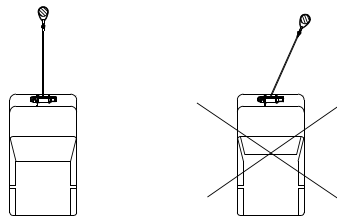

figure 7
14. Avoid pulling things from the limitary angles. Or else the wire rope will cause damage to one end of the drum (See figure 7). This will cause the tangling of wire rope on the winch and bring damage to the wire rope and the winch.